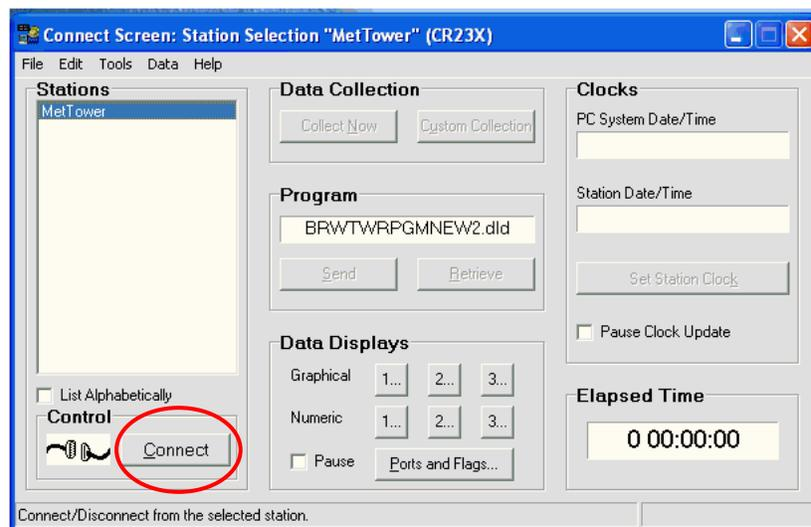

Figure 14
7. Under **Stations**, select the system in which the datalogger was just replaced. When it is highlighted in blue, go to the **Control** section and click on the **Connect** button (see Figure 14). The two wires should connect and the button will change to **Disconnect**. If **LoggerNet** cannot establish connection, check all communication wiring and hardware for proper function. If the problem persists, contact the system mentor.